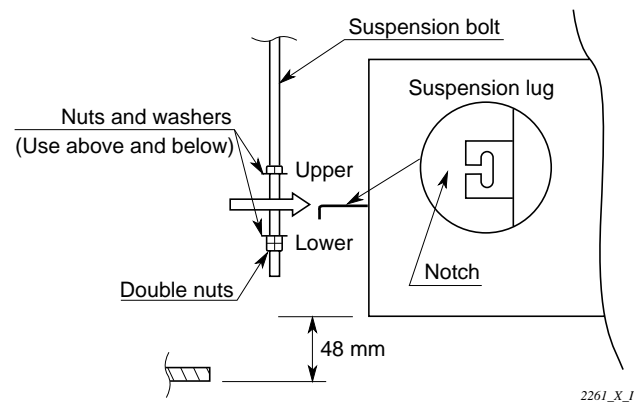

Fig. 2-5
- (3) Thread the 2 hexagonal nuts (field supply) and washers onto the 4 suspension bolts as shown in Fig. 2-5.